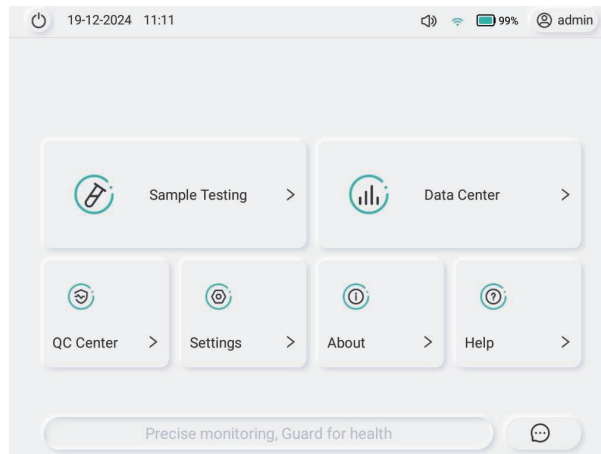

Figure 5-3 Homepage
3) The system will prompt an error message if the account or password entered is wrong. After successfully logging in, you will enter the homepage (Figure 5-3).